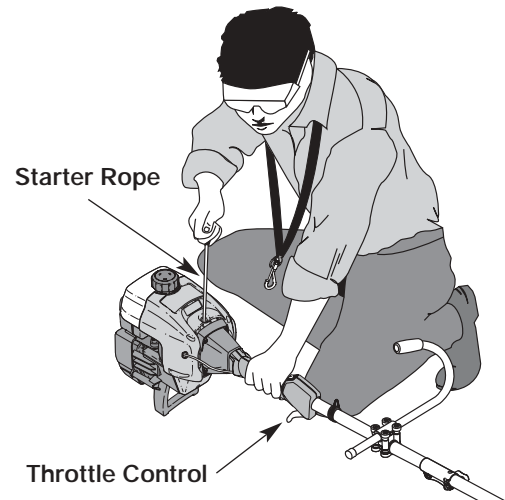

Fig. 18
**WARNING:** Avoid accidental starting. Make sure you are in the starting position when pulling the starter rope (Fig. 18). To avoid serious injury, the operator and unit must be in a stable position while starting.
5. While the unit is in the starting position (Fig. 18), **DO NOT SQUEEZE THE THROTTLE CONTROL**. Pull the starter rope briskly 5 times, making sure the EZ-Start™ lever is pushed to the left. If the engine starts to run before the fifth pull, proceed to step 6.
1. Release your hand from the throttle control (Fig. 18). Allow the engine to cool down by idling.